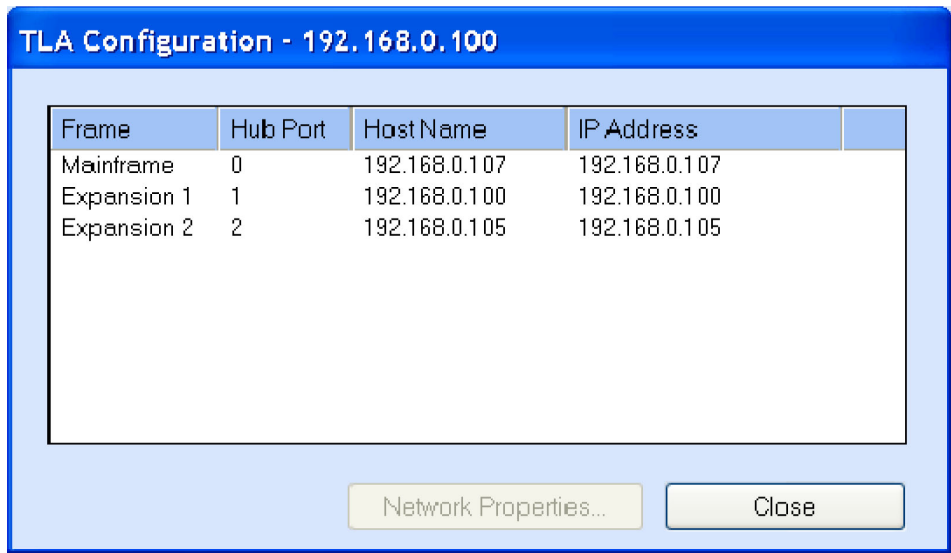

Figure 28: TLA Configuration dialog box
3. Click the TLA Configuration icon. The TLA Configuration dialog box opens. (See Figure 28.)